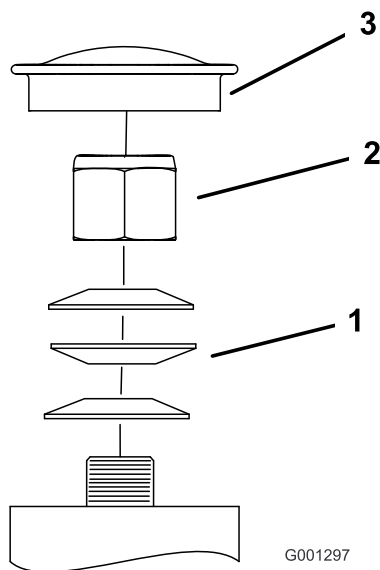

Figure 62
3. Remove the dust cap from caster and tighten the locknut (Figure 62).
4. Tighten the locknut until the spring washers are flat, and then back off a 1/4 turn to properly set the preload on the bearings (Figure 62).
Important: Make sure that the spring washers are installed correctly as shown in Figure 62.
5. Install the dust cap (Figure 62).